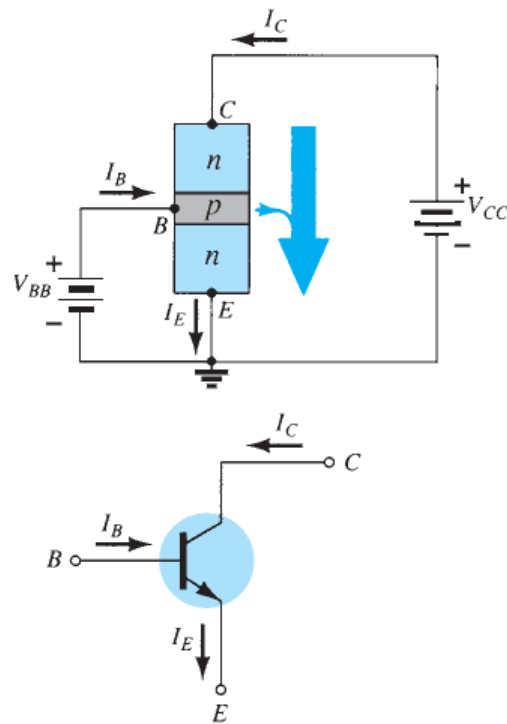
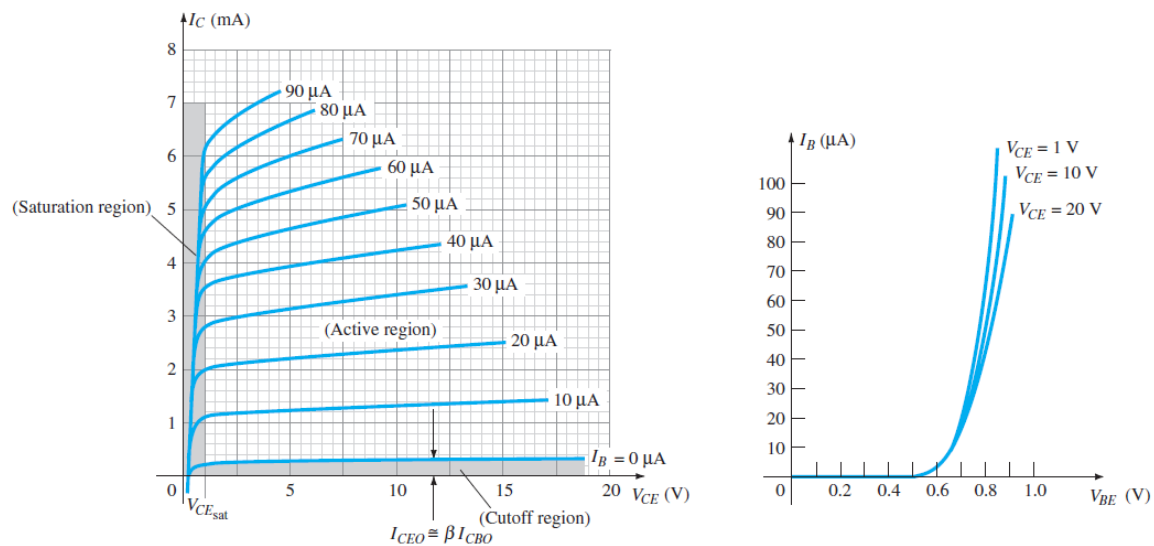

Figure 10.3.1: Notation and symbols used with the common-emitter configuration.
Figure 10.3.2: Collector characteristics and base characteristics.
The most frequently encountered transistor configuration appears in Fig. 10.3.1. It is called the common-emitter configuration because the emitter is common to both the input and output terminals (in this case common to both the base and collector terminals). Two sets of characteristics are again necessary to describe fully the behaviour of the common-emitter configuration: one for the input or base–emitter circuit and one for the output or collector–emitter circuit. These are represented in Fig. 10.3.2.
1. Connect the circuit as shown in Fig. 10.3.1 with certain modifications.